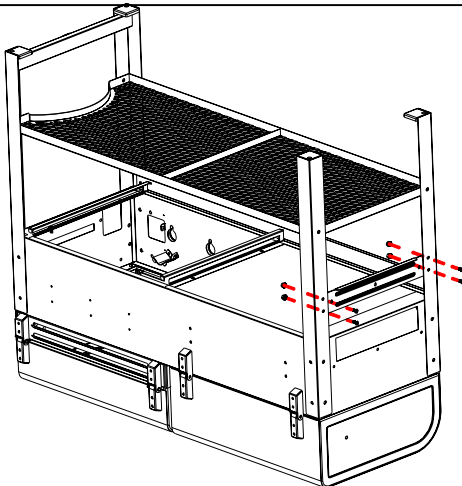

Fig. 8
*Locate:* Fire Box Support Brace, (4) M6x15 bolts, (4) M6 KEPS nuts
Refer to Fig. 8 and Place the Fire Box Support Brace **BETWEEN** the Legs on the **RIGHT** side of the Cabinet, so that the LEDGE is at the TOP and facing through the Legs. Fasten to **BOTH** legs with (2) M6x15 bolts and (2) M6 KEPS nuts on each Leg.